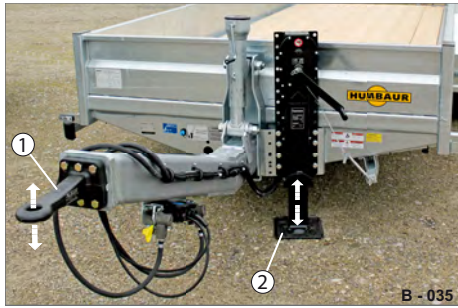

Fig. 34 Height equalisation/alignment
► If necessary, correct the tube drawbar setting (Fig. 34/1) by means of the geared support winch (Fig. 34/2).